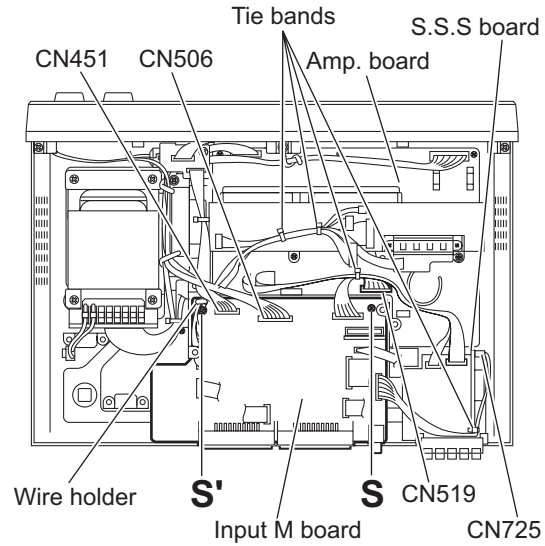

Fig.16
3.1.16 Removing the input M board (See Fig. 16)